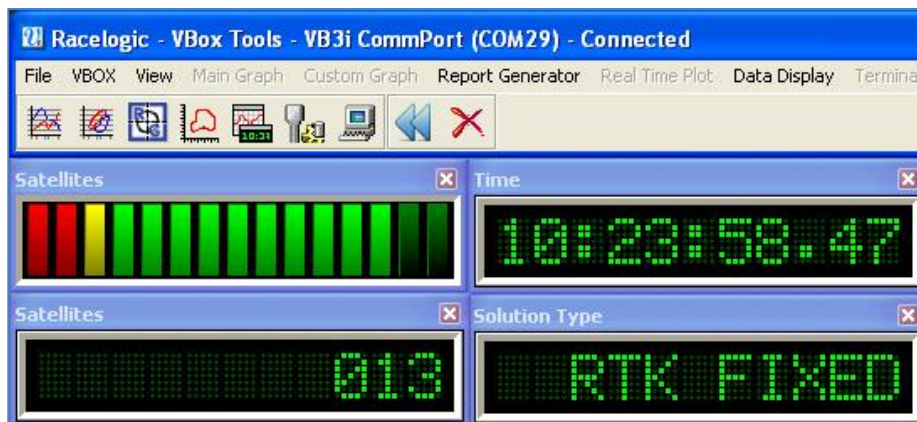

Figure 8: RTK Fixed Solution Type within VBOX Tools
- A VBOX Tools live window set to Solution Type shows "RTK Fixed", see Figure 8